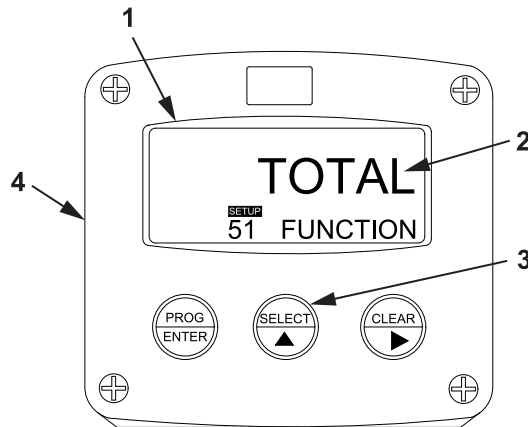

Figure 27. TOTAL Display.
- b. Verify that TOTAL (Figure 27, Item 2) appears on the display screen (Figure 27, Item 1). If TOTAL (Figure 27, Item 2) does not appear, perform the procedure to program tank volume meter monitor settings and select TOTAL (Figure 27, Item 2).
- c. Press the SELECT key (Figure 27, Item 3) on the tank volume meter monitor (Figure 27, Item 4) three times.